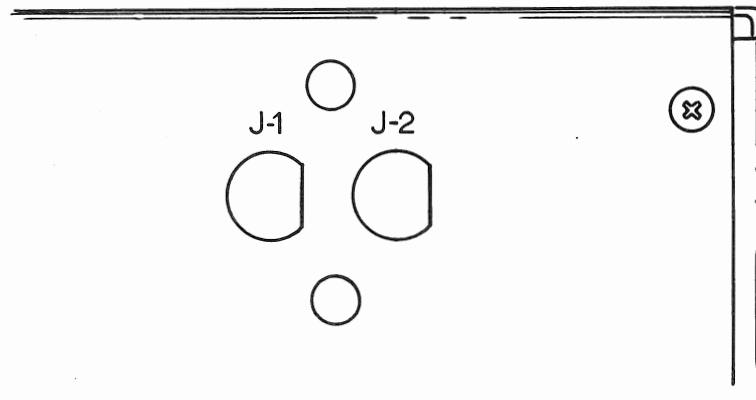

Fig. 2
- ( ) 2. Remove the tape backing from the "J1-J2" identification plate (from kit) and fasten it to the rear plate above the two 1/2 in. "D" holes shown in Fig. 2. Leave about 3/16 in. of metal between holes and identification plate.